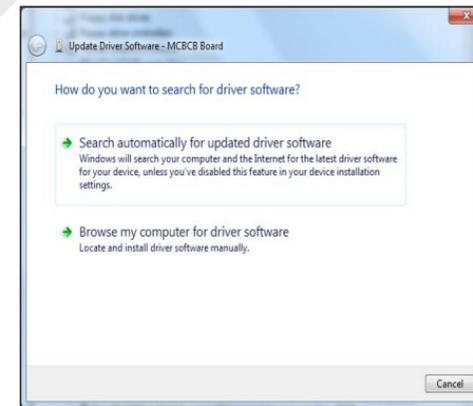

Figure 3-12
Click "Update Driver software", as shown in figure 3-12
As shown in figure 3-12, Click on the "browse computer for Driver software" (R), choose "E:/Driver/XRF Driver" folder, as shown in figure 3-13: